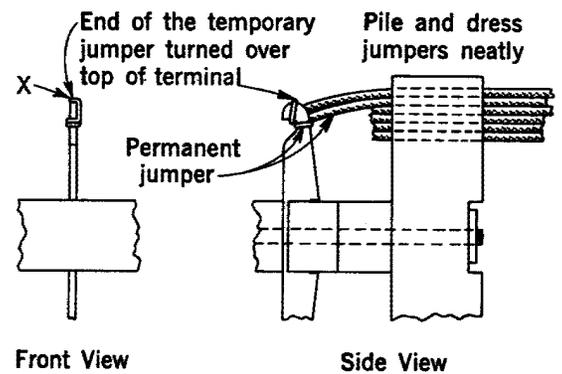

Fig. 19
12.07 Connect the temporary jumper as shown in Fig. 19. Bring the wire along the top of the permanent jumper through the notch, up and across the top of the terminal. Solder the connections to the terminal, being careful not to leave any excess solder. Then cut off the excess wire of the temporary jumper close to the terminal at the point "X".